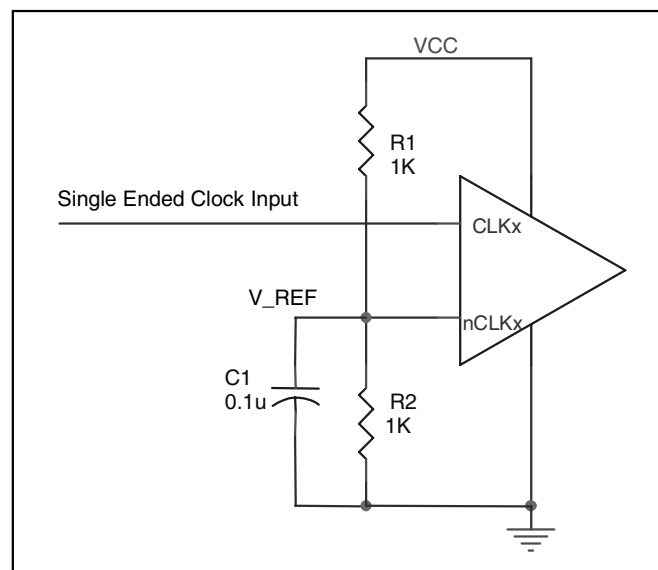

FIGURE 2. SINGLE ENDED SIGNAL DRIVING DIFFERENTIAL INPUT
*Figure 2* shows how the differential input can be wired to accept single ended levels. The reference voltage  $V_{REF} \approx V_{CC}/2$  is generated by the bias resistors  $R1$ ,  $R2$  and  $C1$ . This bias circuit should be located as close as possible to the input pin. The ratio